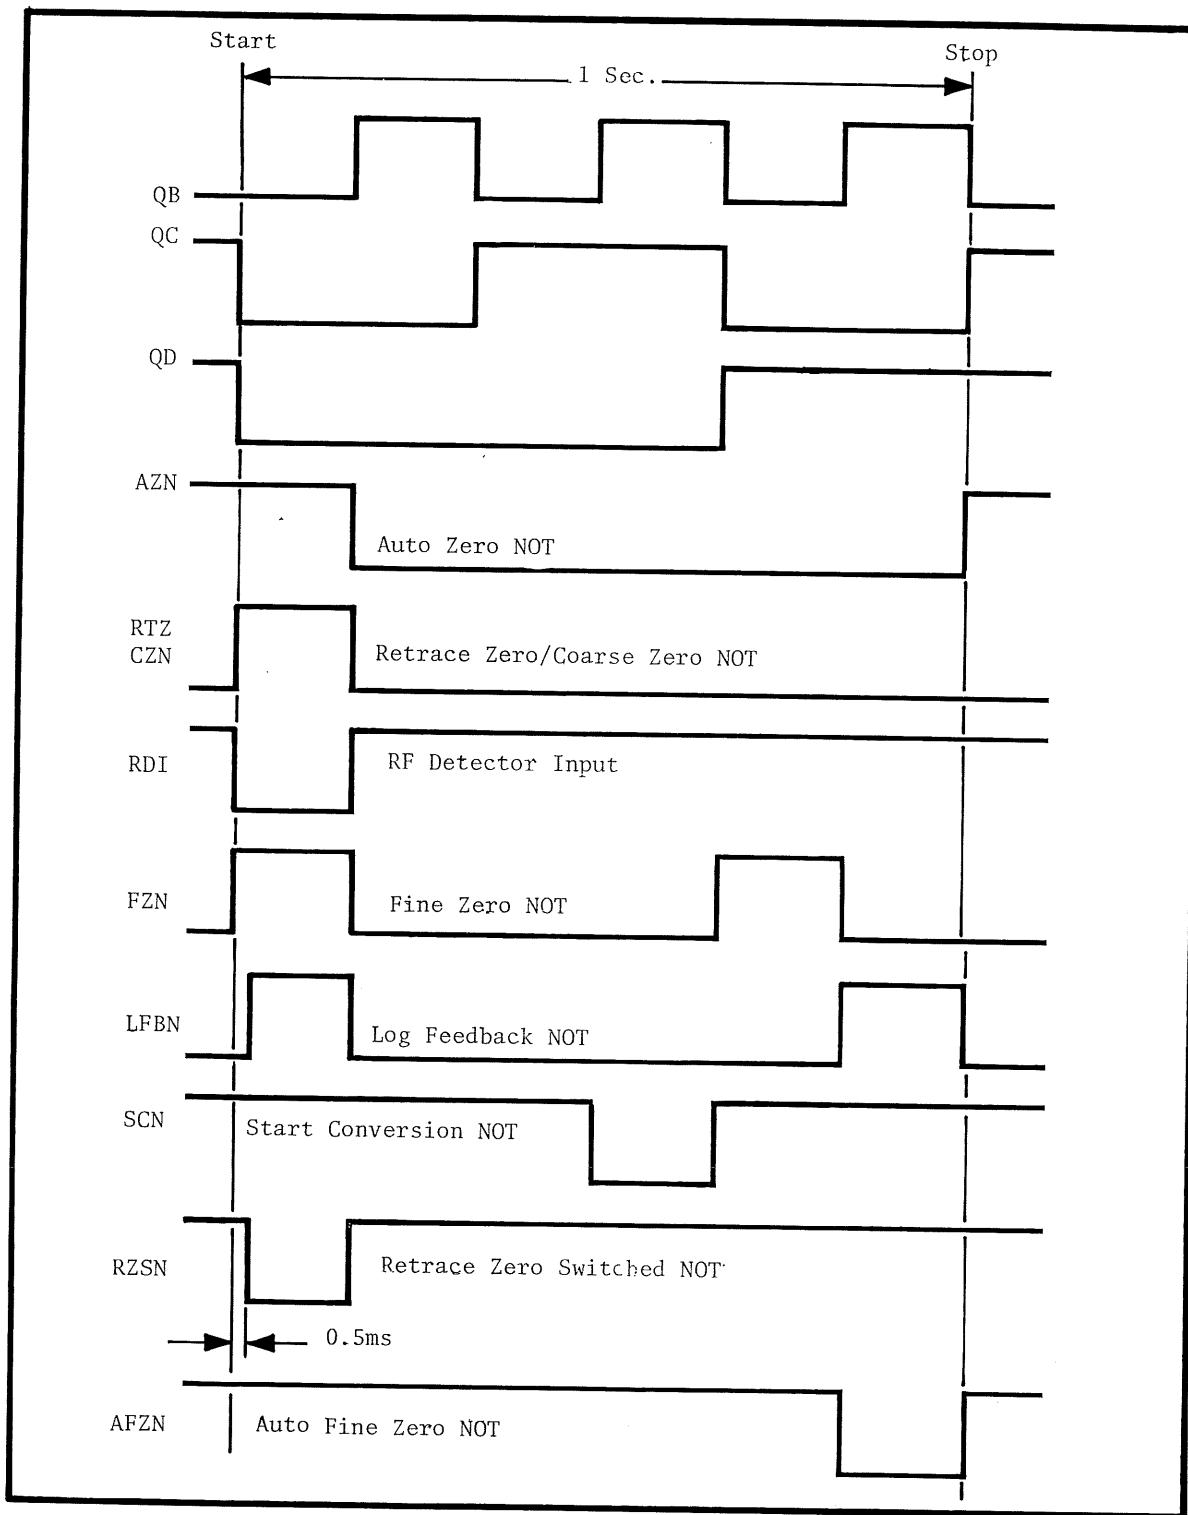

Figure 5-5 Auto Zero Timing Diagram
If the RF is not turned off during retrace, it becomes necessary to take into account the parasitic thermal potentials of the detector diode. As said before, if the RF is off the system will automatically zero itself without adjustment on the part of the operator. In the event that the RF remains on or partially on during retrace, it becomes necessary for the operator to periodically turn off the RF manually. This can be done through the bus or by physically turning off the power from the sweeper. Then, the Auto Zero button on the front of the N10 unit is pressed. This causes the N10 to go through a cycle of events to read the dc voltage on the detector. When the Auto Zero button is pressed, the circuitry performs a normal retrace zero (just discussed) wherein the voltage on capacitor C72 is updated and the N10 is properly zeroed with U30 switched to ground. The cycle is then repeated with the detector in the circuit so that the second zero will take into account any parasitic thermal voltage from the detector. In order to do this, the first part of the cycle is a coarse zero which makes use of successive approximation register U2 and DAC (Digital to Analog Convertor) U3. U3 is fed through U10A (part of the DAC) and then back through switch U18 and R34 to correctly zero the Preamp in the coarse mode. U2 is triggered and goes through a successive approximation (normal A to D conversion) with U1B monitoring the voltage at the output of U19D through R74. (C74 eliminates noise spikes.) The successive approximation goes rather slowly, with each step taking 1/16th of a second. (See Figure 5-5 for the Timing Diagram.) All of the above occurs after the Auto Zero button has been pressed. A signal comes into the Preamp through pin 6 from the N10 microprocessor that says an Auto Zero is required. When the
Refer to Figure 5-5, Auto Zero Timing Diagram, for the logic associated with the Auto Zero function. The logic is basically a clocking sequence which is counted down through U15A and U15B (a 16 Hz signal is used as the trigger frequency to operate the successive approximation register). A series of signals are derived that allow various events to take place. U15A & B are counters, and U23 is a state decoder which selects three modes of operation. U23 allows: (1) retrace zero, then (2) the time interval for the coarse zero cycle, then (3) a one second time interval for the fine zero cycle. U16A, B, and C comprise a three bit comparator. The output of this array is true if the three most significant bits of U2 are equal. This will happen if the correction called for is at the extreme limits of either end. In other words, if it is desired to have one polarity of correction to equal an all true (1's) condition out of U10A, the opposite polarity of correction would equal an all false condition (0's). This indicates that the DAC is at the farthest limit of its ability to correct. This logic signal is fed to pin 12 of U17A (Zero Error). A Zero Error would be indicated if the operator left the RF on when trying to zero the N10 and the signal was too large for the instrument to correct or, if an unused channel were left on that did not have a detector attached. Then the zeroing process would have to be repeated after the RF was removed or the unused channel turned off. The final output of U23 (pin 6 – indicates zeroing process is over) will clock U17A. This means that the "Zero Error" will set U17 to produce an output that does two things: (1) connects an output signal called "Zero Lamp Off" (pin 9 at the input of the Preamp) through U8C and D to a 4 kHz clock from U15A. This causes the front panel "Auto Zero" lamp to start flashing to indicate